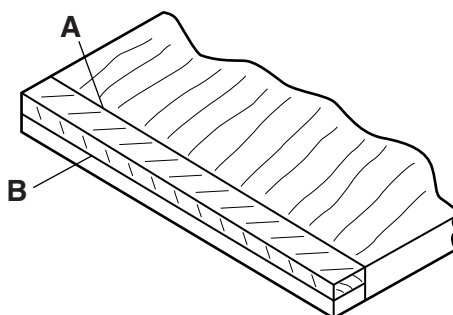

Fig. 3
- 6 Fig. 3 shows a lap joint marked out.